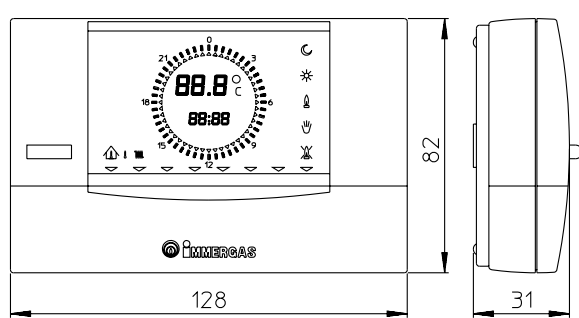

Fig. 1-5 Фиг. 1-5
- There are two types of Super Remote Friend Control (Super RFC) (Fig. 1-5) and Digital Remote Control (DRC) (Fig. 1-5) both with room chronothermostat functioning. In addition to the functions described in the previous point, the Remote Friend Control enables the user to control all the important information regarding operation of the appliance and the heating system with the opportunity of easily intervening on the